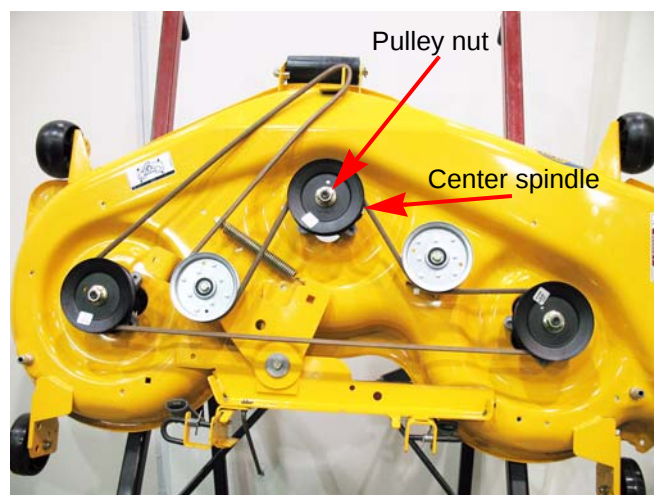

Figure 8.10
2. If the deck is equipped with three blades, the center spindle pulley can be removed at this point using an impact wrench with a 15/16" socket to remove the pulley nut. See Figure 8.10.